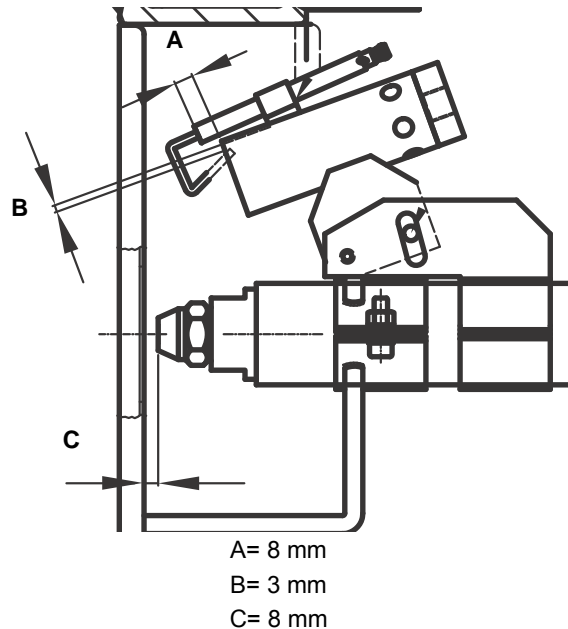

Fig. 24
To guarantee a good ignition, the measures below (in mm) must be observed (Fig. 24).
- 5 remove the electrode and replace it, referring to the values quoted on Fig. 24.